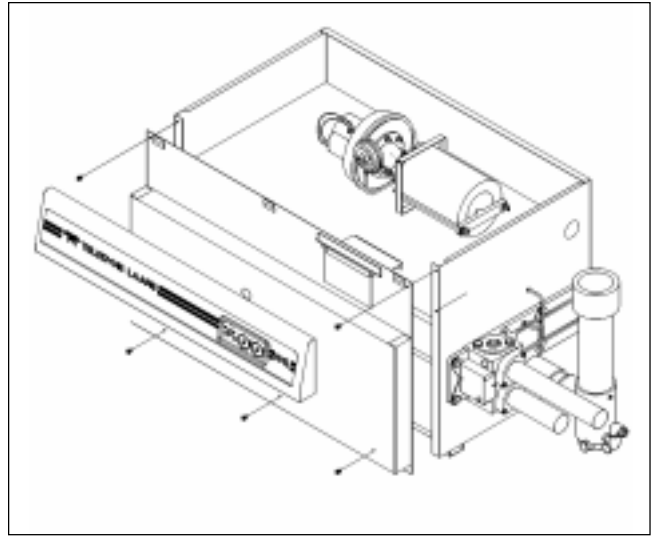

Figure 15. Upper and Lower Front Panel Removal
4. Remove the upper front panel by removing the screw located on the left side, inside the heater compartment (see Fig. 15).
5. Lift the upper front panel out of the three slots and set it aside (see Fig. 15).
6. Remove the lower front panel assembly by removing the three screws along the base of the heater, and the four screws on the sides (see Fig. 15). Two of these screws are inside the heater compartment.